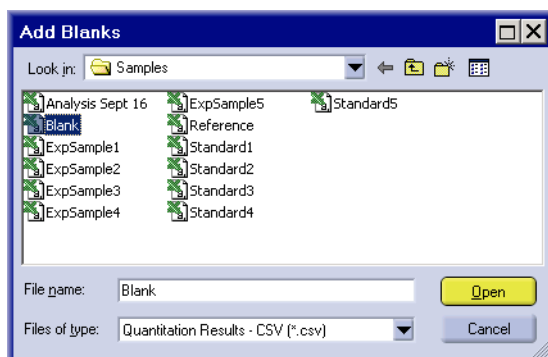

Figure 2-16 Add Blanks Window
1. In the *Analysis - Blank and Reference Data* window, click **Add** next to the **Blanks** box. The *Add Blanks* window opens (Figure 2-16).